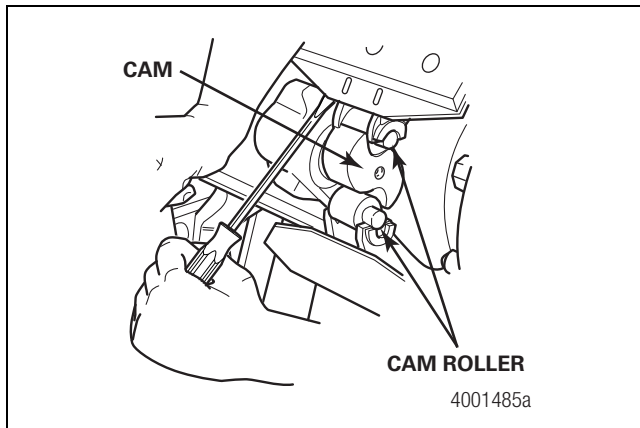

Figure 5.32
- Place a pry bar between the shoe and the cam. Lift up the shoe. Install the shoe rollers onto the camshaft end of the shoes. The cam roller slot in the brake shoe has an over-center design that retains the rollers and thus requires the rollers to be “snapped” into position. The rollers must touch the ends of the shoes and camshaft. Figure 5.32.